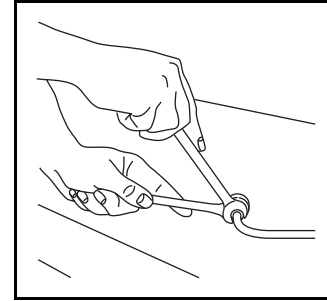

Figure 39
2. Locate the compression fitting and ferrule packed with the unit. Slide the compression fitting and ferrule over the 1/4-inch Outside Diameter water supply line. Do not use thread sealing compound or tape. Using two wrenches, tighten the compression fitting on the supply line (see **Figure 39**).